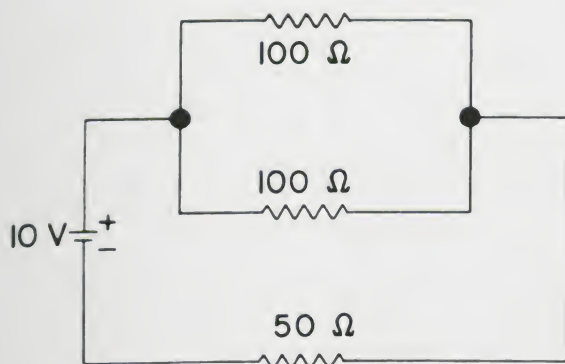

Figure 40A.
**Example 8.** Find the current being supplied by the battery in the circuit of Figure 40A.